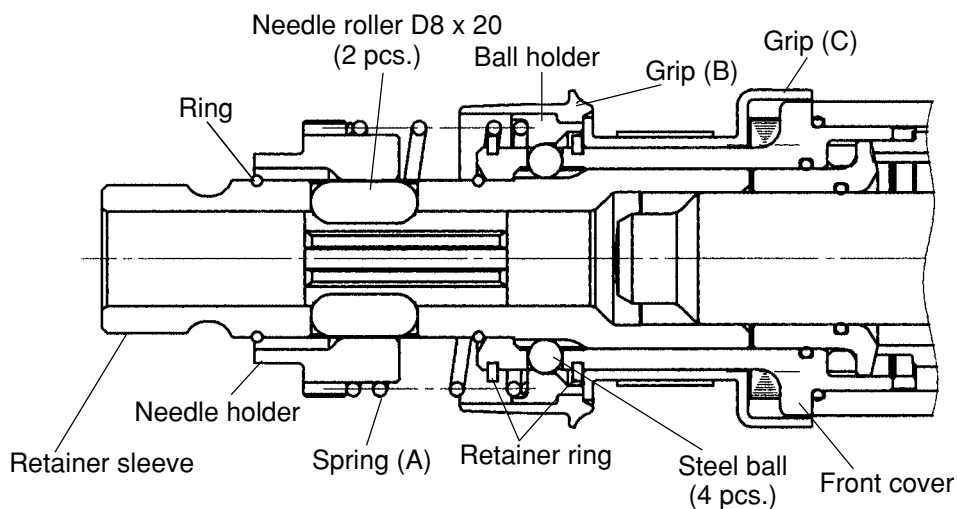

Fig. 13
Remove the Ring **[3]** by means of a snap ring remover, then the Needle Holder **[4]**, the two Needle Rollers D8 x 20 **[5]** and Spring (A) **[6]** can be removed from the Retainer Sleeve **[16]**. Remove the Retaining Ring D42 **[7]** by means of a snap ring remover, then the Ball Holder **[8]**, Grip (B) **[9]** and the four Steel Balls D6.35 **[11]** can be removed from the Front Cover **[13]**. Furthermore, remove the Retaining Ring D42 **[7]** by means of a snap ring remover, then Grip (C) **[10]** can be removed from the Front Cover **[13]**. (Fig. 13)